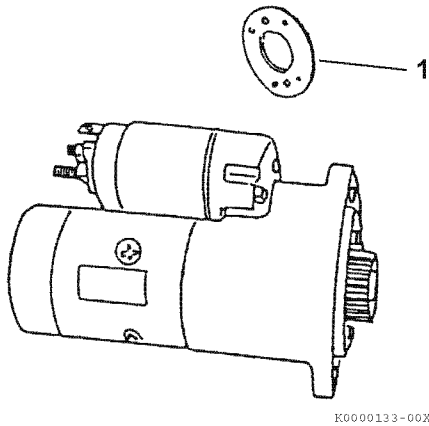

Figure 10-36
5. If the measured L dimension is outside the standard range, adjust the dust covers to obtain the standard range. Dust covers **(Figure 10-36, (1))** are available in 0.020 in. (0.5 mm) and 0.031 in. (0.8 mm) thicknesses.